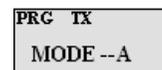

Figure 9
11. LCD will Display "PRGTX MODE-A" for programming the **TX Mode**. (See Figure 9) Press the "PRI" key to toggle between "A", "D", or "M". Select "A" and press the "ENT" key.